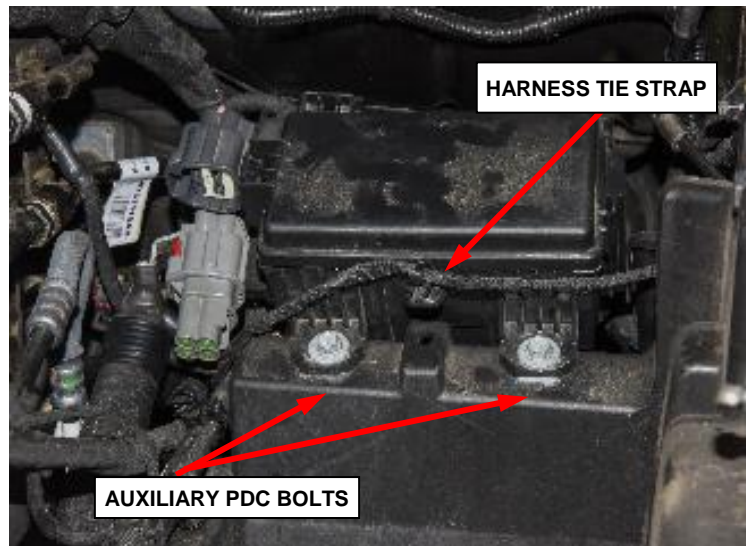

Figure 10 – Auxiliary PDC Bolts and Harness Tie Strap
11. Remove the two bolts retaining the auxiliary PDC to the battery tray. Remove the small harness fir tree tie strap from the tab on the auxiliary PDC (gas engine only) (Figure 10).
22. Install and tighten the two bolts retaining the auxiliary PDC to the battery tray. Secure the small harness fir tree tie strap to the tab on the auxiliary PDC (Figure 10).